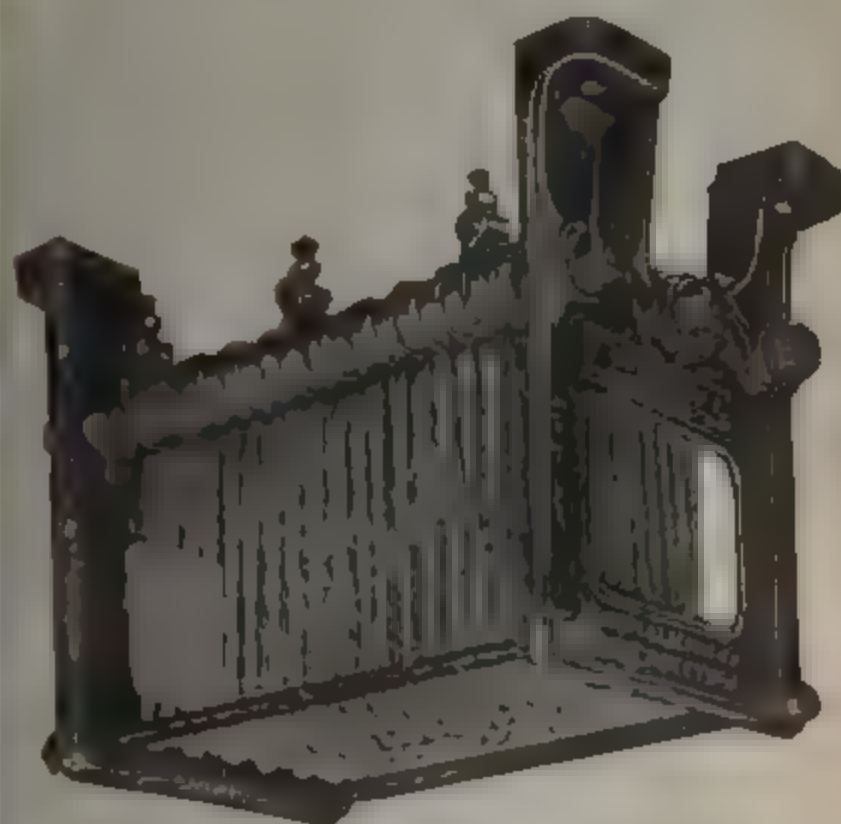

Fig. 483 Motor Control Rheostat
13. THE RESISTANCE (Fig. 483) is located beneath the car, near the contactors, and is made up of cast iron grids mounted in, and insulated from, an iron frame.